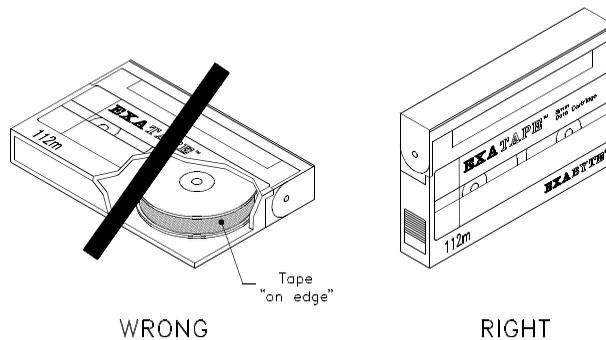

Figure 11 Do not store a data cartridge on its side
- **Store each cartridge on one of its long edges, not flat on its side (see Figure 11).** When a data cartridge is stored on its side, the tape inside the cartridge is actually on its edge. In this position, stress is placed on the tape edges and can lead to tape damage. For the same reason, never stack cartridges on top of each other or lean them at an angle for extended periods of time.